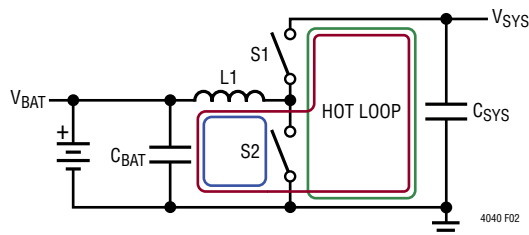

Figure 2. Hot-Loop Illustration for the LTC4040 Switching Converter
1. Even though the converter can operate in both step-down (buck) and step-up (boost) mode, there is only one hot-loop containing high-frequency switching currents. The simplified diagram in Figure 2 can be used to explain the hot-loop in the LTC4040 switching converter. Current follows the blue loop when switch S2 (NMOS) is closed and the red loop when switch S1 (PMOS) is closed. So it is evident that the current in the C_{BAT} capacitor is continuous whereas the C_{SYS} current is discontinuous forming a hot loop with V_{SYS} pins and GND as indicated by the green loop. Since the amount of EMI is directly proportional to the area of this loop, the V_{SYS} capacitor, prioritized over all else, should be placed as close to the V_{SYS} pins as possible